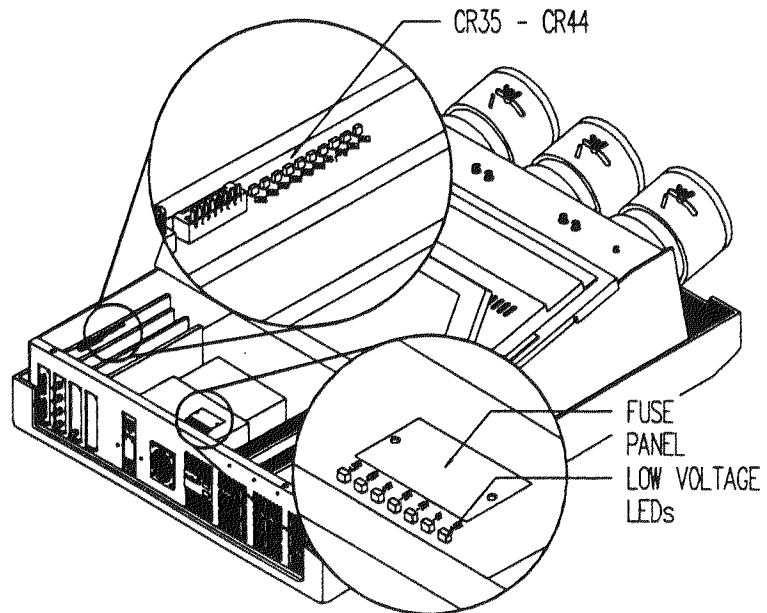

FIGURE 9-3.
The DC outputs of the switch mode power supply are fused and indicated by the LEDs located on the upper cover of the module. Additionally, these voltages are monitored by the CPU's diagnostics routine and may be addressed by entering [30] [CODE]. See Figure 9-3. NOTE: All LEDs are normally "ON".
Located on the CPU Module is a row of ten (10) mini LEDs. (CR35 through CR44) which indicate any CPU related problems, such as failure of the internal I²C or external RS232 communications. CR43 and CR44 indicate the standby voltage conditions which are illuminated when the main AC is applied and the main toggle switch is in the "ON" position. Refer to Figure 9-3 for the operating conditions of the remaining LEDs..